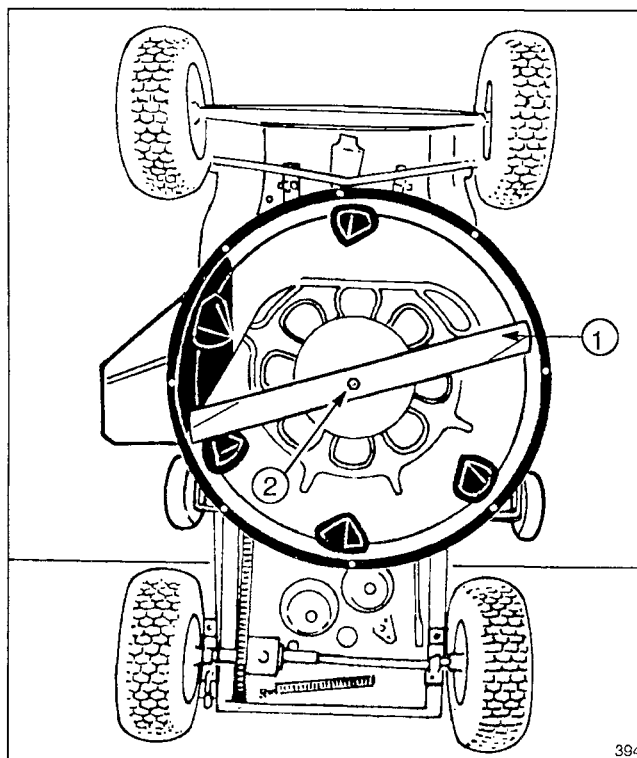

Figure 16
6. Grasp end of blade using a rag or thickly padded glove; then remove blade bolt, washer and blade (Fig. 16).
9. In sequence, reinstall blade, washer and blade bolt (Fig. 16). Tighten blade bolt to 45-60 ft-lb (61-81 N·m).
6. Remove grass clippings and dirt that are sticking to inside of housing (Fig. 16) by spraying with a garden hose. Scrape out grass and dirt that water does not remove from housing; then spray housing again.